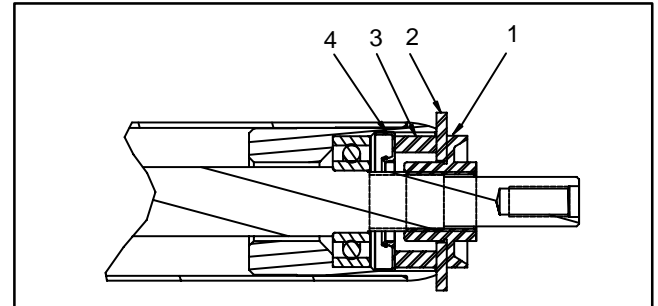

Figure 34
8. Position an assembly spacer and yellow assembly washer (see Special Tools) on each end of roller shaft (Fig. 34). Thread nut onto each end of shaft.